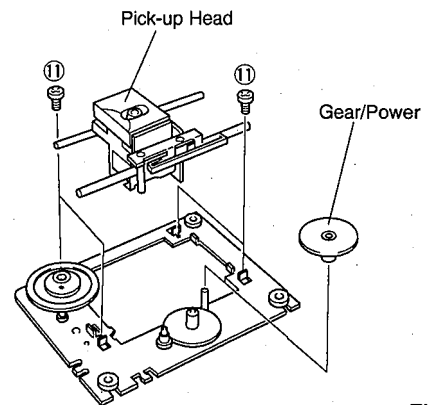

Fig. 6
- c. Pull out the Gear/Power as shown in Fig. 6.
- d. Remove 4 screws ( ⑪ ) and then remove the Pick-up Head as shown in Fig. 6.